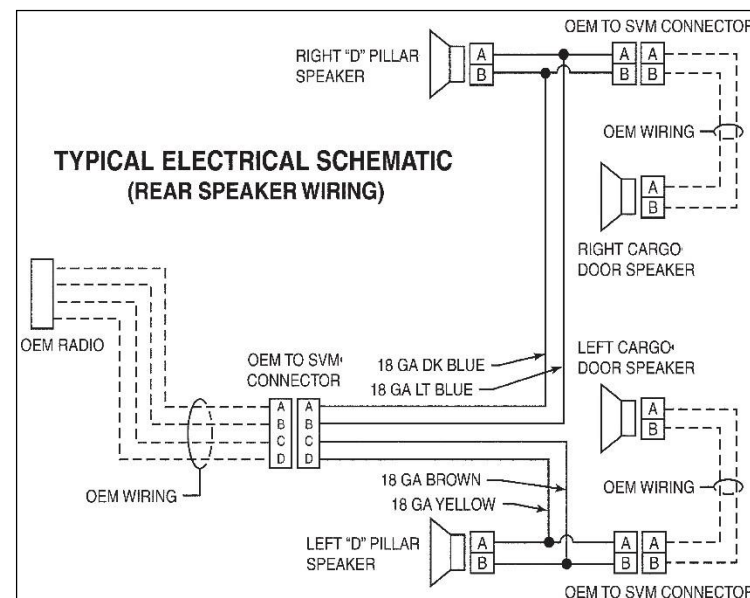

Figure 38 ...vised Date: 09/30/2017
- Basic schematic drawings of Upfitter-added electrical systems (see Figure 38)